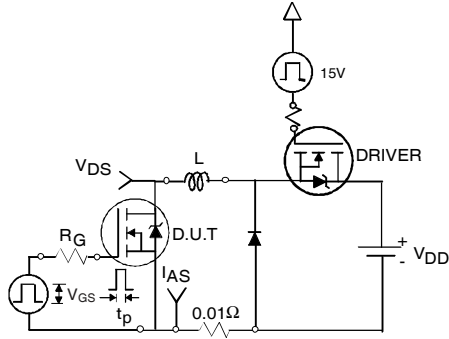

Fig 12a. Unclamped Inductive Test Circuit
- ③ Pulse width $\leq 1.0\text{ms}$; duty cycle $\leq 2\%$.
- ④ $C_{oss\ eff.}$ is a fixed capacitance that gives the same charging time as C_{oss} while V_{DS} is rising from 0 to 80% V_{DSS} .
- ⑤ Limited by T_{Jmax} , see Fig.12a, 12b, 15, 16 for typical repetitive avalanche performance.
- ⑥ This value determined from sample failure population. 100% tested to this value in production.
- ⑦ R_{θ} is measured at T_J of approximately 90°C .
3. Equation below based on circuit and waveforms shown in Figures 12a, 12b.